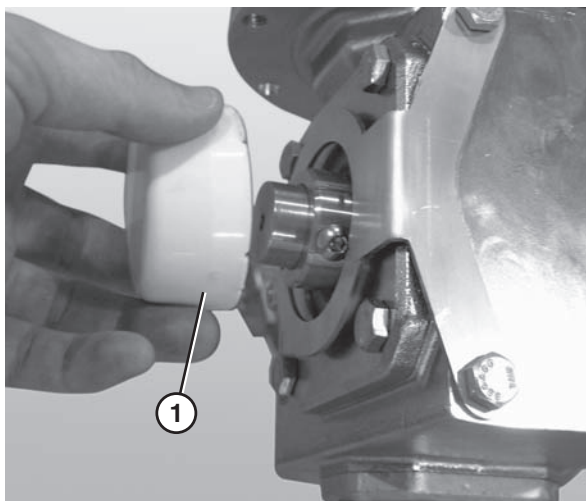

Figure 8
6. Attach the gearmotor cover (**Figure 8, item 1**).